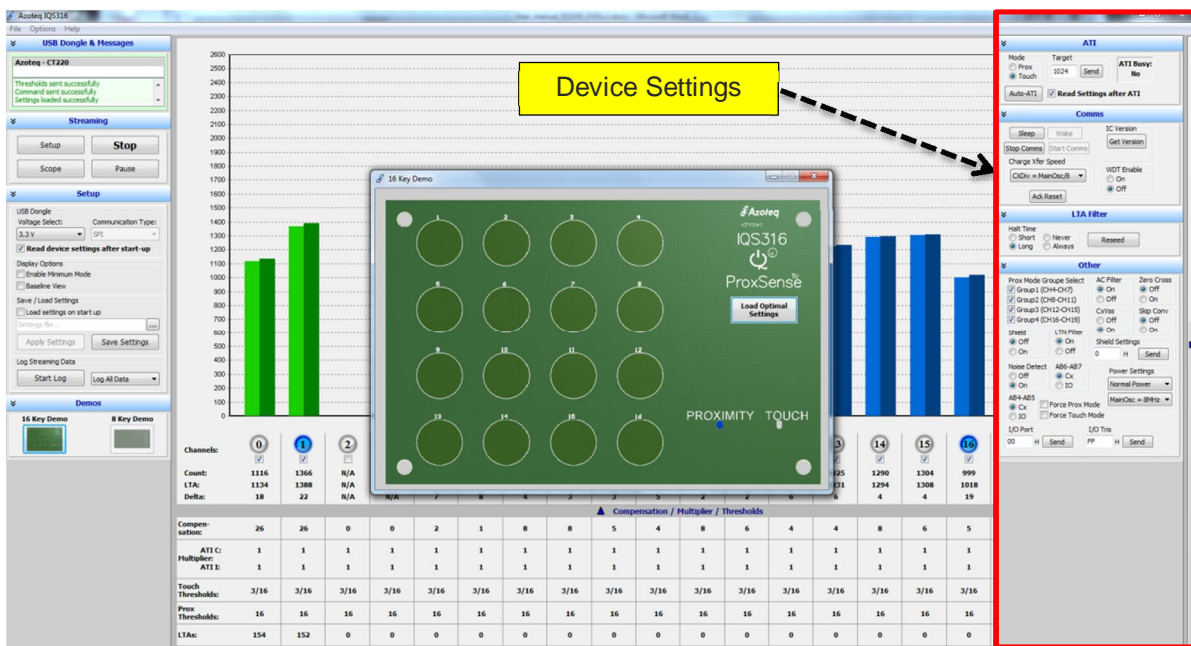

Figure 5.4 Device settings menu
- Figure 5.4 displays the device setting menu: